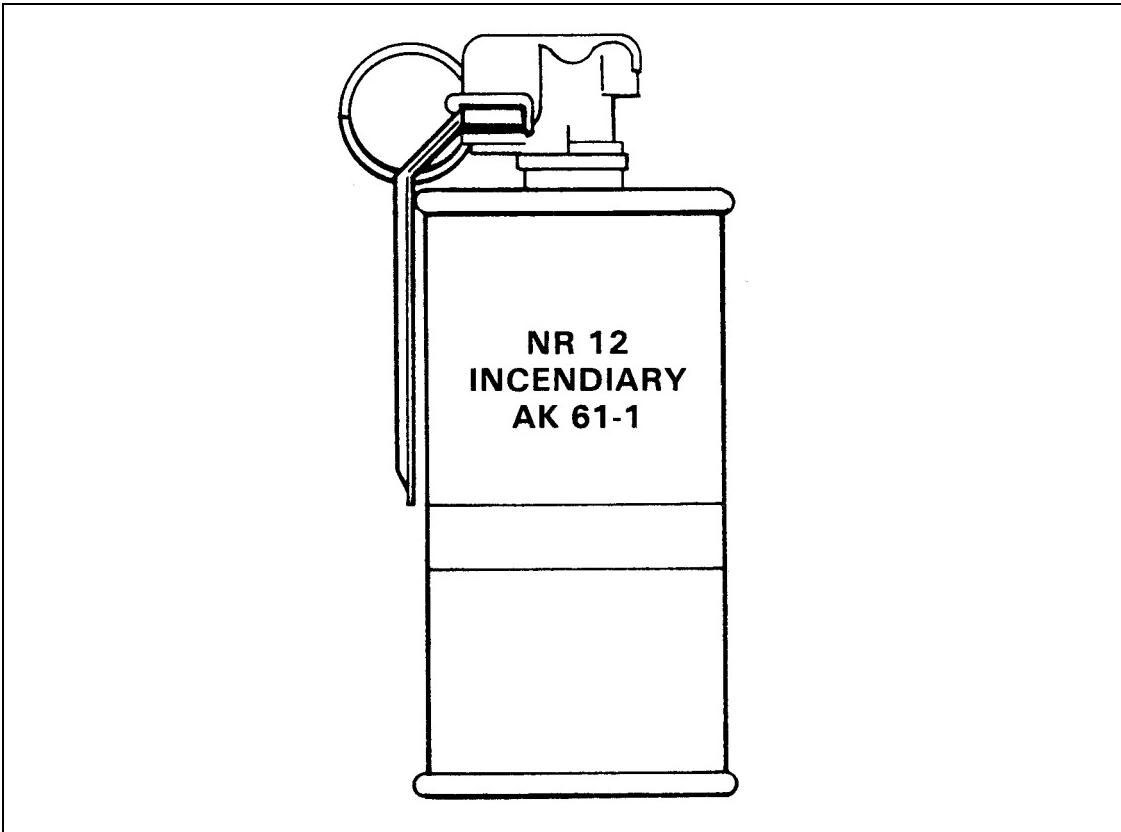

Figure F-6. NR12 incendiary hand grenade.
- Type: Incendiary. (Figure F-6)